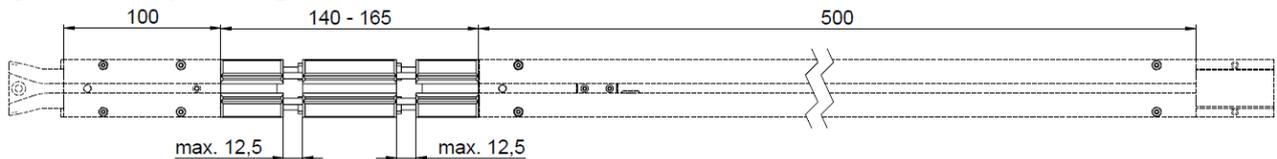
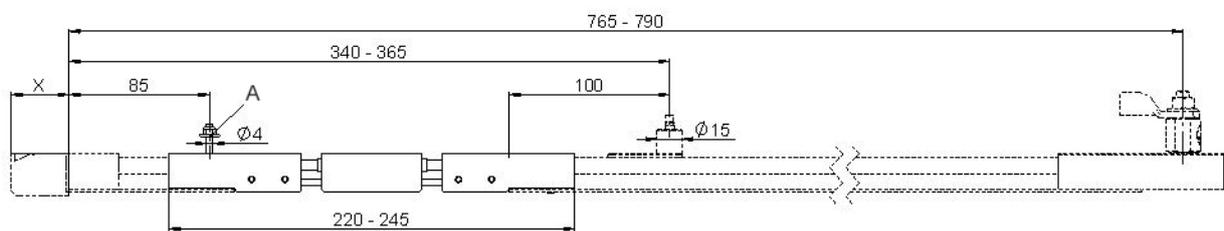
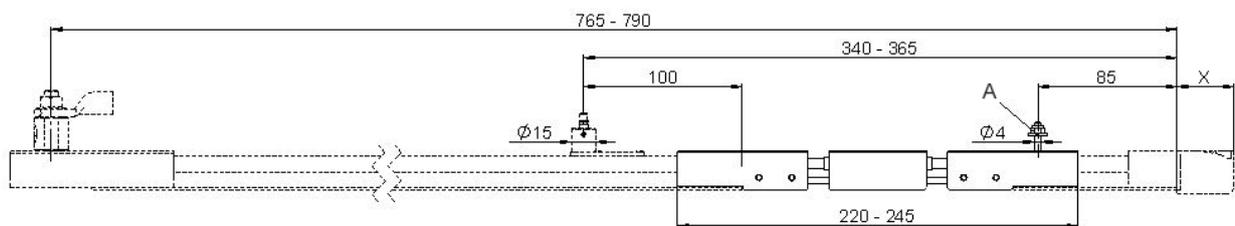

Fig. 65: Expansion unit – end feed (mounted on left)
Fig. 66: Expansion unit – end feed (mounted on left), A = Anchor point
Fig. 68: Expansion unit – end feed (mounted on right), A = Anchor point
- To fasten the expansion unit (4), a through hole (D = 6 mm) must be drilled through the support structure.
- The position of the through hole can be derived from Fig. 65 and Fig. 66.
System with positioning strip (take dimensions from Fig. 65 to Fig. 68)